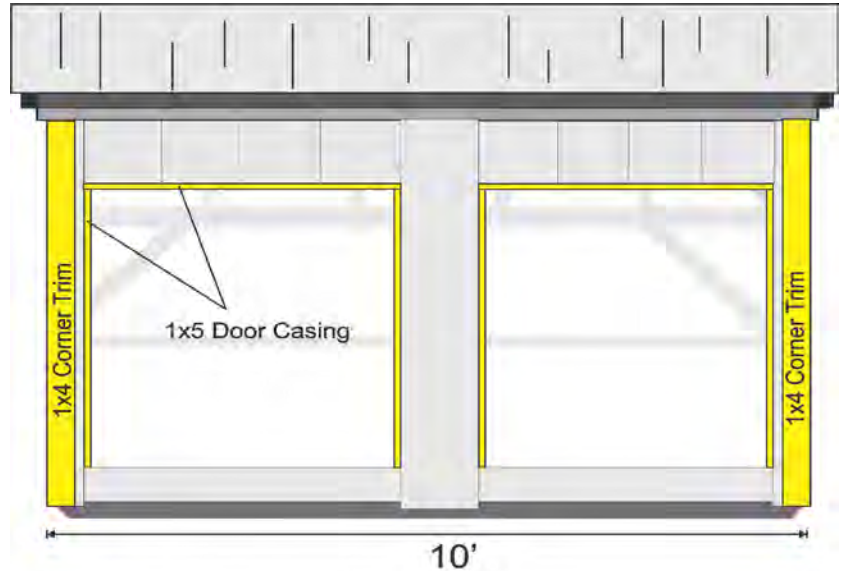

Figure 1- Corner Trim & Door Casing
Step 1. Attach the vertical 1x4 corner trim boards flush in the front and rear. Figure 1. To avoid a “bullet holed” look, nail in pairs using the 6d galvanized nails. Work them in unison across or down proportionately.
Step 2. Install the 1x5 door casing trim around the interior of the woodbin opening. This trim covers the siding and the door framing and fits around the interior of the opening. Figure 1. Nail the door casing trim with four sets of three 6d nails, one at each end and two evenly spaced in the center. Refer to the cutlist for cutting details.